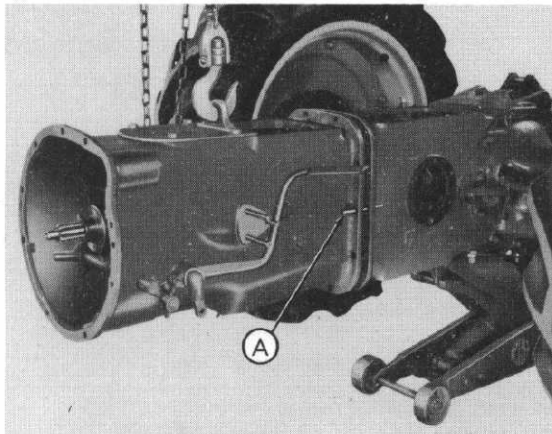

Fig. 1
- Step 3—Insert a drift pin (A-Figure 1) in each side of the transmission and center housing to align the holes.